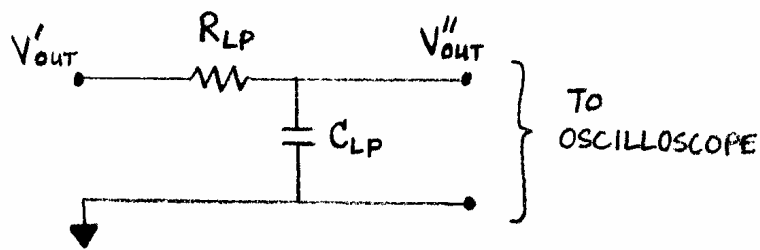

Figure 12. RC Low-pass filter
1. Add the RC low-pass filter shown in Figure 12 to the circuit you built in Experiment #2.